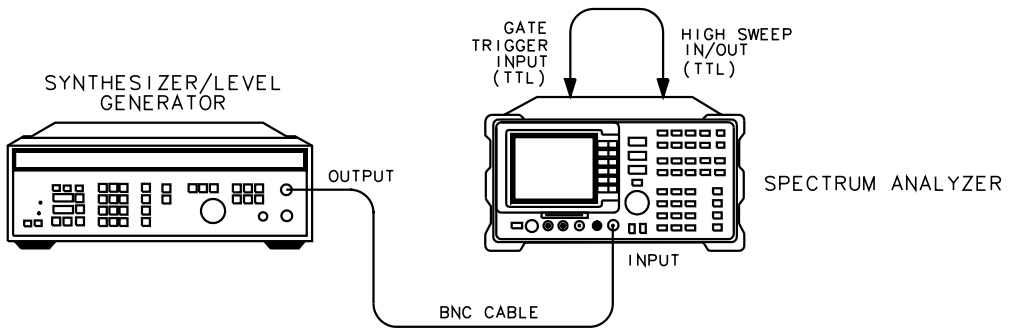

Figure 70 Gate Delay and Gate Length Test Setup
- 1 Connect the equipment as shown in Figure 70. (For Option 001 spectrum analyzers, attach the 75 Ω cable to the spectrum analyzer's RF input connector rather than the 50 Ω cable.)